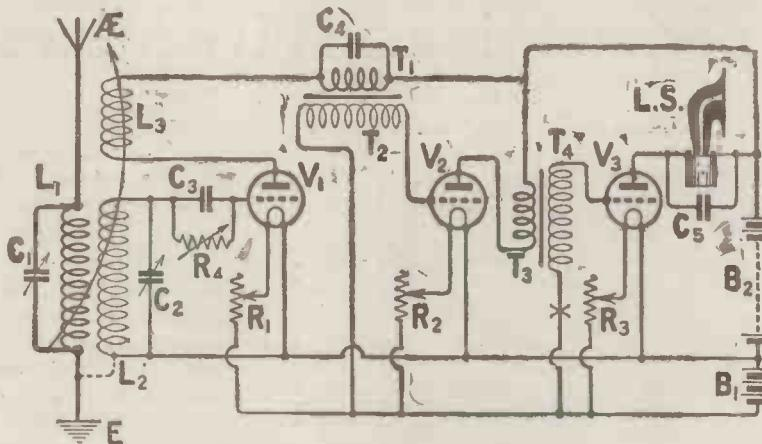

Fig. 1.—The circuit arrangement.
**A** LOOSE-COUPLED single-valve set, with well-controlled reaction, is, under good conditions, a very useful receiver, and if a two-valve L.F. amplifier is added much useful work may be done with this combination. Such a circuit is shown in Fig. 1, in which it will be seen that the first valve acts as a detector and the second and third valves are transformer coupled low-frequency amplifiers.